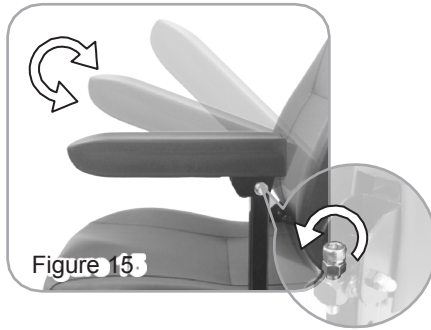

Figure 15
- **Angle** : rotate the screw as picture to adjust the most comfortable armrest angle. (Figure 15)